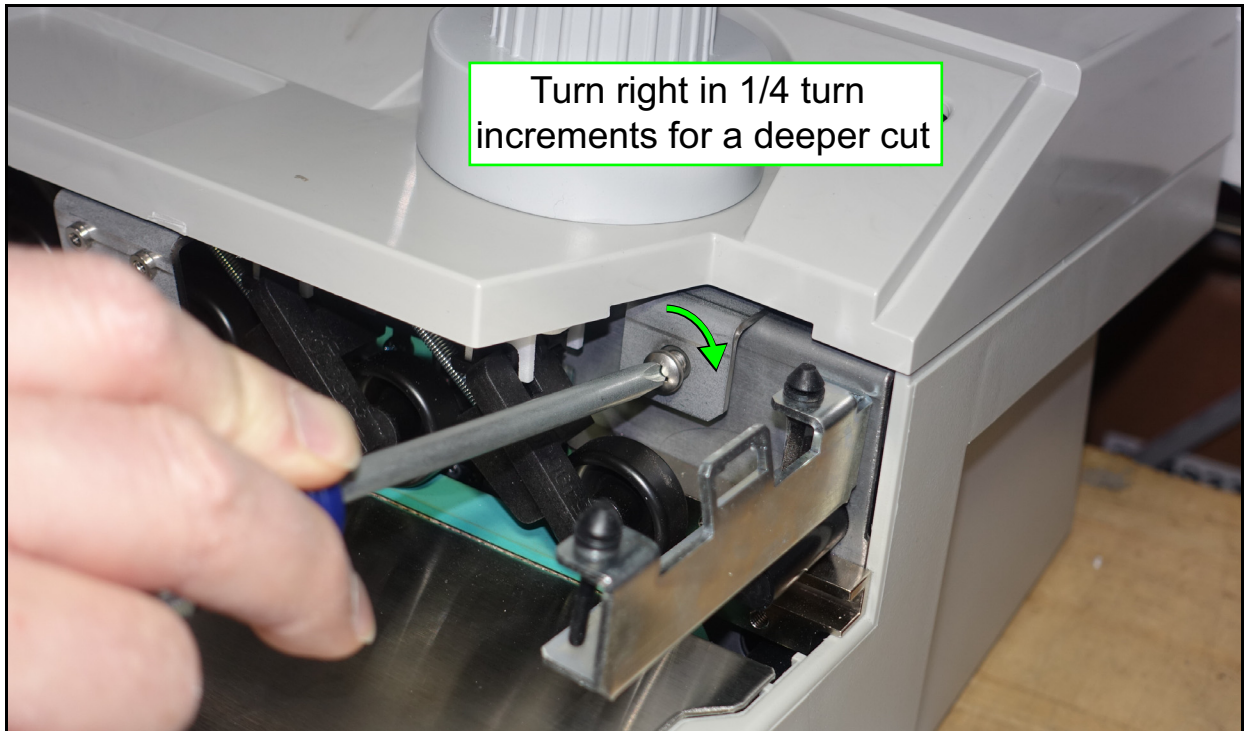

Figure 4-8: Adjusting the cutter depth
3. The depth of the cutter can be fine-adjusted by turning the cutter depth screw (Figure 4-8). Using a Phillips screwdriver, turn the screw in 1/4-turn increments; to the right for a deeper cut, or to the left for a shallower cut.